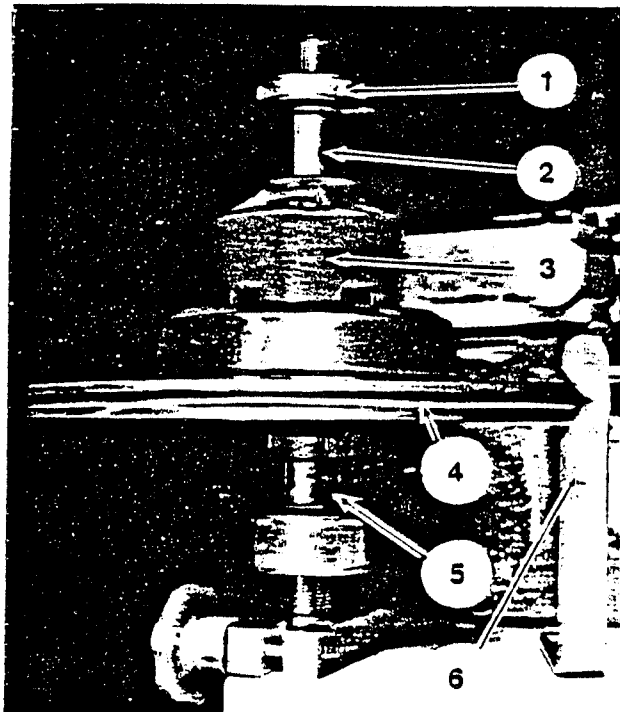

Figure 14. Positioning Rotor
6. Install disc brake rotor, as shown in Figure 14.
8. Swing the rotor positioning guide until it contacts the outer edge of the disc rotor. Turn the large nut until the rotor edges are centered within the V-slot of the positioning guide. Figure 14.